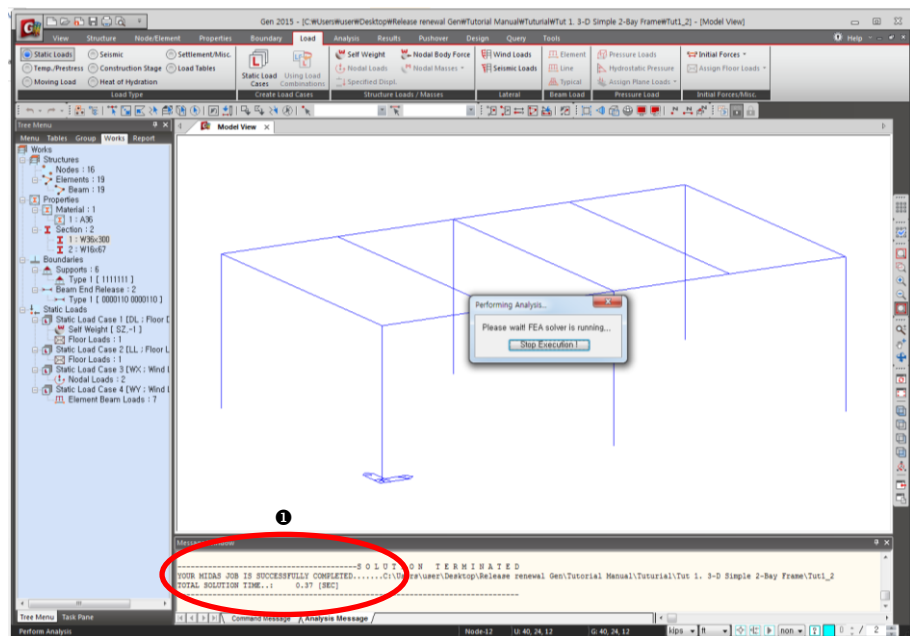

Figure 1.21 Execution Process of Structural Analysis
Once the structural analysis begins, the dialog box signaling the execution appears in the middle of the screen as shown in Fig.1.21. The overall analysis process, including the formation of the element stiffness matrix and the assembling process, is displayed step-by-step in the **Analysis Message Window** at the bottom of the screen (Fig.1.21–①).